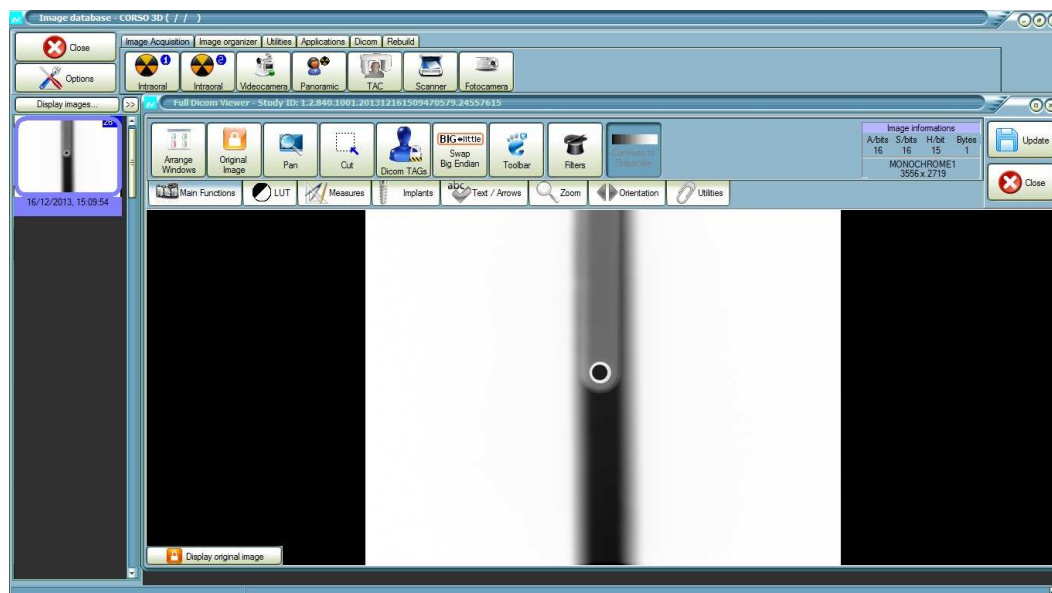

Figure 7-6
17. Check on the image if the Ear Centering Circles are concentric (small circle inside the big circle – i.e. as shown in Figure 7-6).